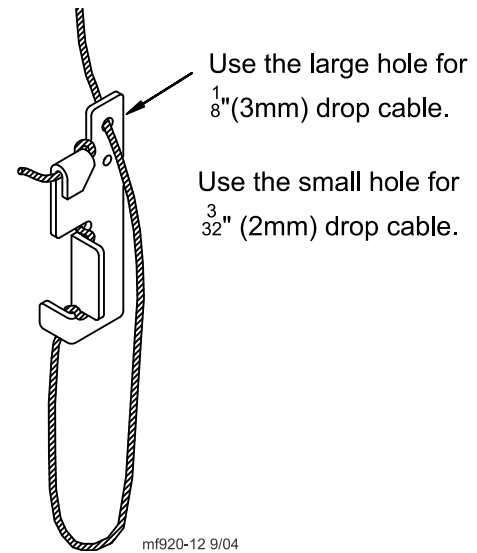

Figure 58. Adjustment Leveler Installation
6. Install Adjustment Leveler within 6" (152 mm) of feeder line. **Figure 58** shows the proper cable routing around the Adjustment Leveler.